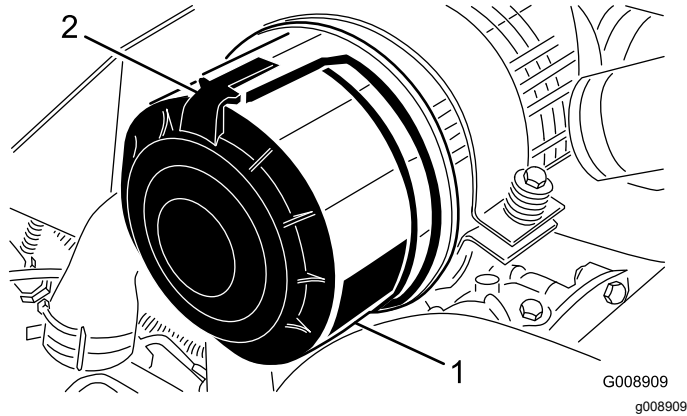

Figure 58
1. Release the latches securing the air-cleaner cover to the air-cleaner body (Figure 58).